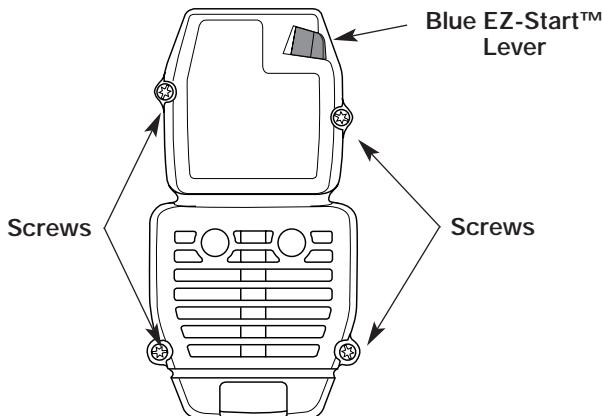

Fig. 36
1. Remove the four (4) screws securing the air filter/muffler cover (Fig. 36). Use a T20 Torx bit screwdriver.
2. Insert the four (4) screws into the holes in the air filter/muffler cover (Fig. 36) and tighten.